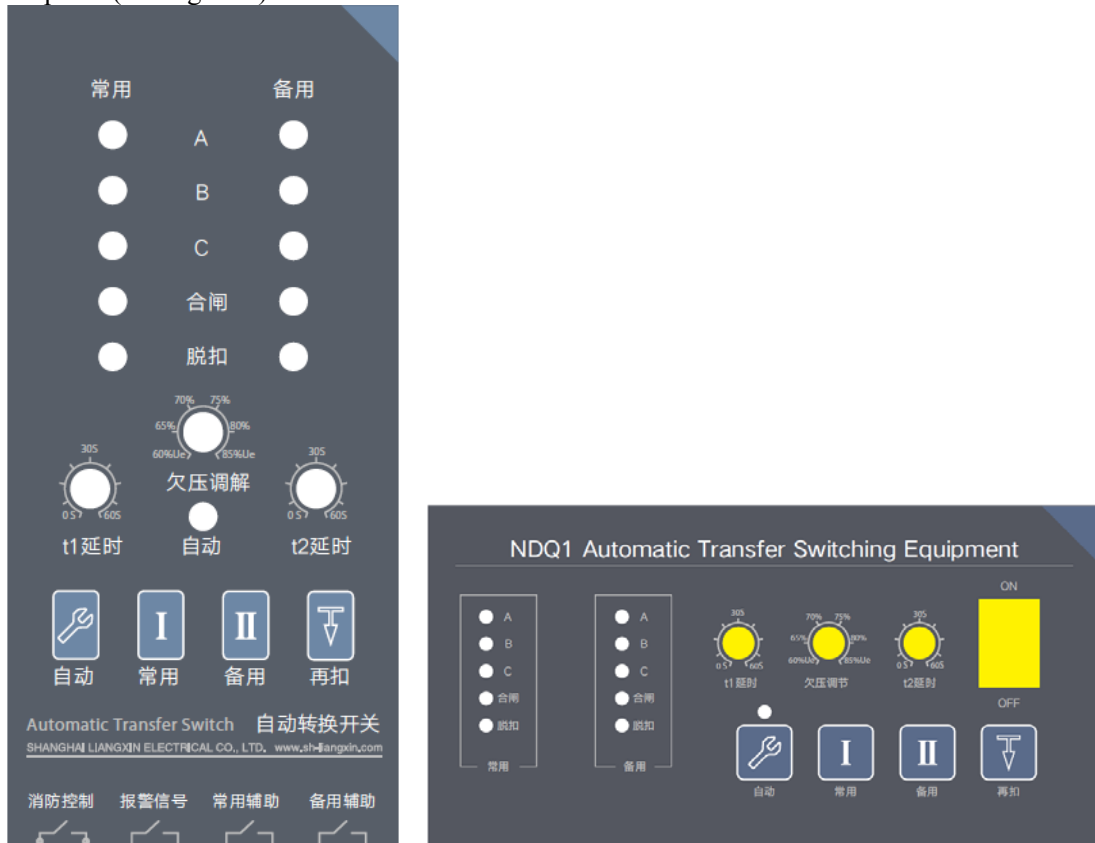

Figure 1
6.1 Controller panel (see Figure 1)